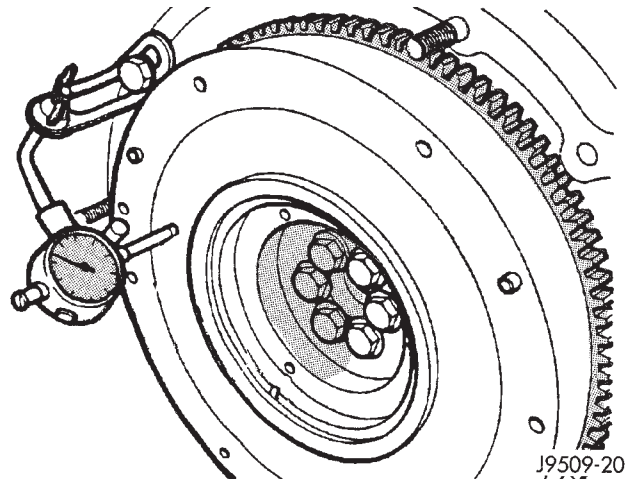

Fig. 113 Measuring Crankshaft End Play
(17) Install 2 adapter hub bolts, 180° apart, and tighten bolts to 20 N·m plus 60° (15 ft. lbs.) plus 60°.
(18) Attach dial indicator to engine block.
(19) Move crankshaft toward front of engine and zero indicator.
(20) Move crankshaft toward the rear of engine and record measurement.
(21) Subtract specified crankshaft end play from figure obtained. Crankshaft end play 0.08 to 0.28 mm (.0060 to .0119 in.).
(22) Select thrust washers which will give correct end play.
(23) Remove tools and adapter hub.
(24) Lubricate thrust washer halves and fit them into the rear main bearing carrier.
(25) Ensure that crankshaft end and adapter hub mating surfaces are clean and dry. Install "O" ring in adapter hub groove.
(26) To verify correct end play, install 2 adapter hub bolts 180° apart, and tighten bolts to 20 N·m plus 60° (15 ft. lbs. plus 60°).
(27) Measure crankshaft end play with a dial gauge. Crankshaft end play should not exceed 0.08 to 0.28 mm (.0060 to .0119 in.) (Fig. 113).